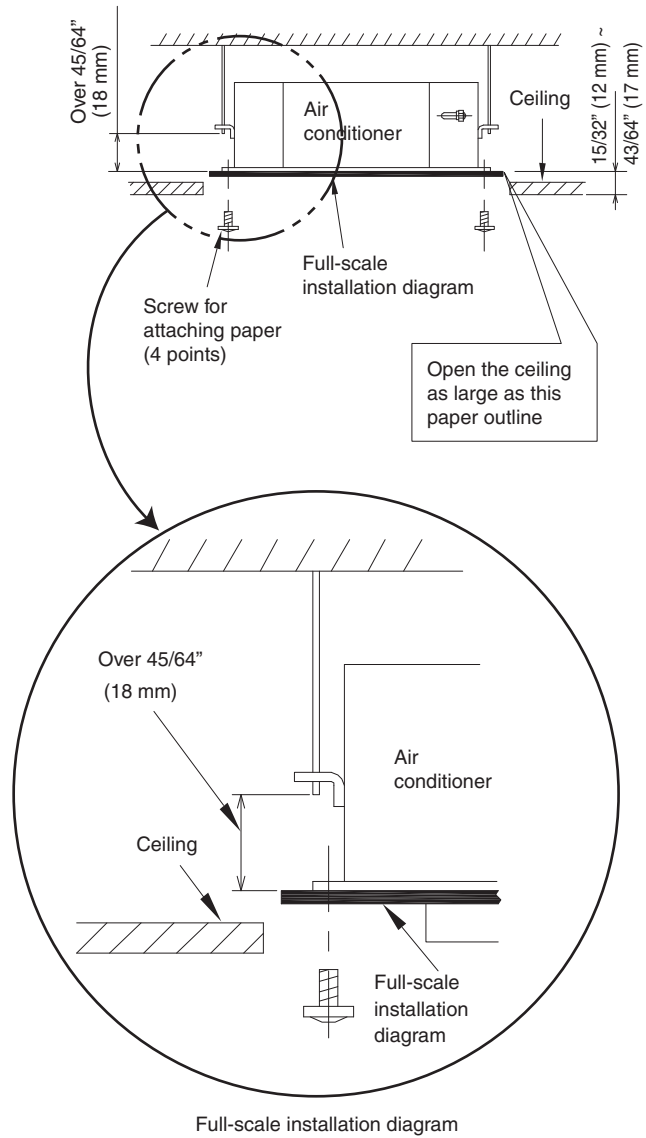

Fig. 3-4
- (1) When placing the unit inside the ceiling, determine the pitch of the suspension bolts using the supplied full-scale installation diagram. (Fig. 3-4)
- (2) The length of suspension bolts must be appropriate for a distance between the bottom of the bolt and the bottom of the unit of more than  $45/64$ " (18 mm) as shown in Fig. 3-4.